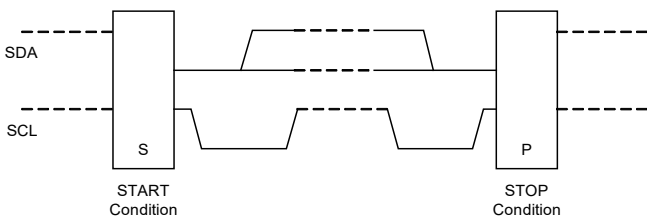

Figure 15. I2C Start and Stop Conditions
The SGM37603A is configured via an I2C interface. START (S) and STOP (P) conditions classify the beginning and the end of the I2C session (see Figure 15). A START condition is defined as SDA transitioning from high to low while SCL is high. A STOP condition is defined as SDA transitioning from low to high while SCL is high. The I2C master always generates the START and STOP conditions. The I2C bus is considered busy after a START condition and free after a STOP condition. During the data transmission the I2C master can generate repeated START conditions. A START and a repeated START conditions are equivalent function-wise. The data on SDA must be stable during the high period of the clock signal (SCL). In other words, the state of SDA can only be changed when SCL is low.